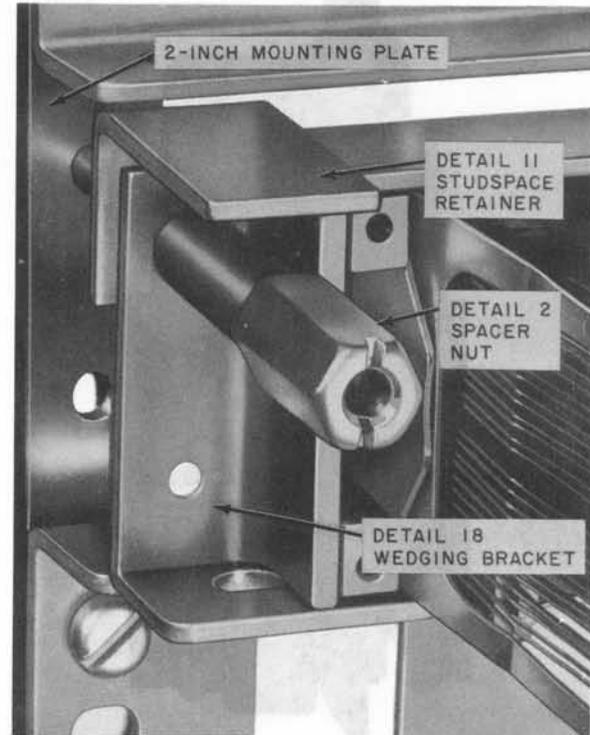

Fig. 13—Detail 18 Wedging Bracket in Place Over Left Detail 4 Stud
- (f) If the relay being repaired is at the left end of the mounting plate, place the Detail 18 wedging bracket over the left Detail Stud as shown in Fig. 13. The wedging bracket is not required for relays in other mounting positions.